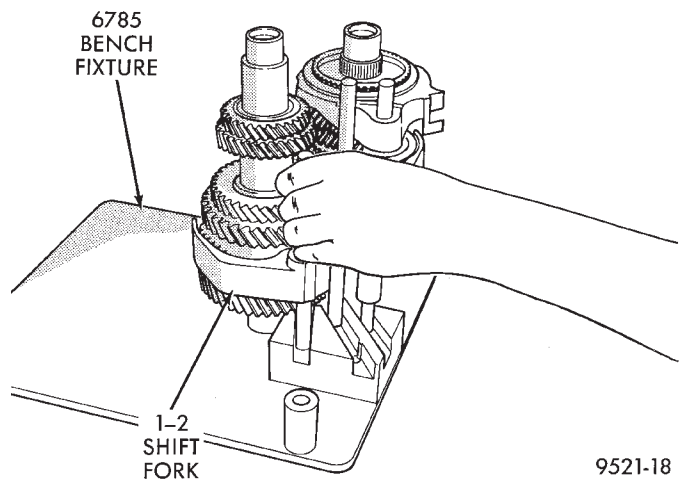

Fig. 67 Shift Rail Installation
(2) Install shift rails and forks into bench fixture (Fig. 67).